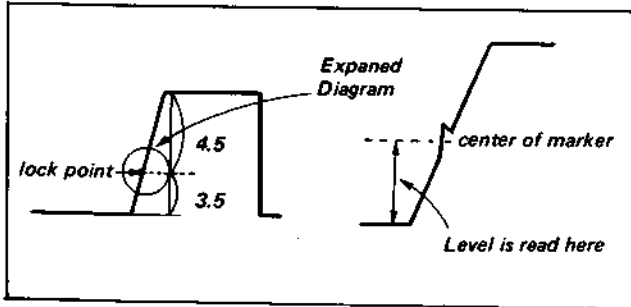

Fig. 4-24. AFC adjustment
- (1) Supply the VTR with a colour bar signal and set up the E-E mode.
- (2) Connect the oscilloscope to TP29 (pin 5 of IC6). TRIG: EXT { TP28 (pin 6 of IC5)}
- (3) Adjust RV17 so that the lock point is 3.5/8 from the trapezoidal waveform bottom (Fig. 4-24).